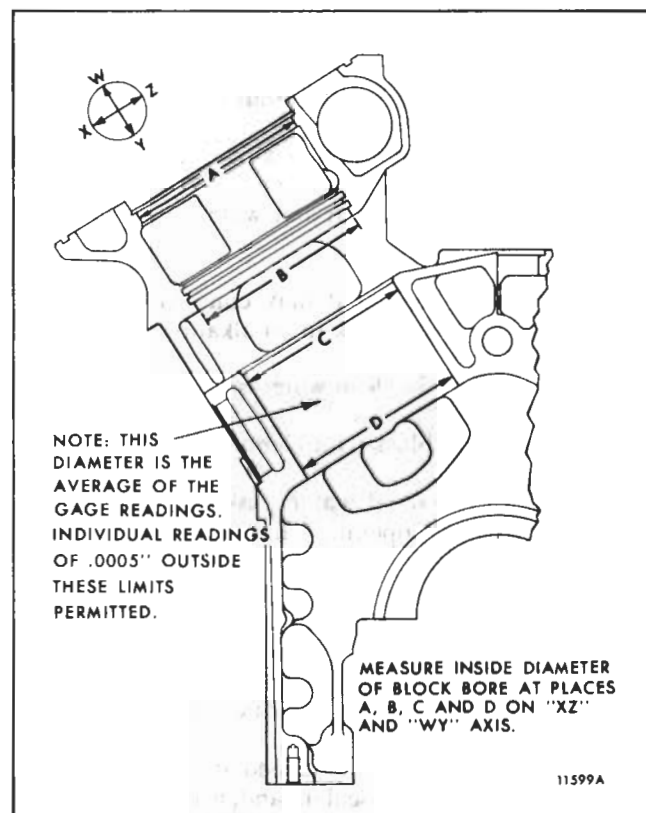

Fig. 3 - Cylinder Block Bore Measurement Diagram
- b. Measure each cylinder block bore, at the positions indicated in Fig. 3, on axis 90° apart. If the diameter does not exceed 5.3615 " (new) or 5.3625 " (used) at position "A", 5.3380 " (new) or 5.3390 " (used) at position "B" (lower two seal ring lands), 5.2170 " (new) or 5.2180 " (used) at position "C" and 5.2175 " (new) or 5.2180 " (used) at position "D", and a sealing problem has not occurred at position "B", the block may be reused. The above measurements are average gage readings at each position. Also, the taper and out-of-roundness must not exceed .0010 ".